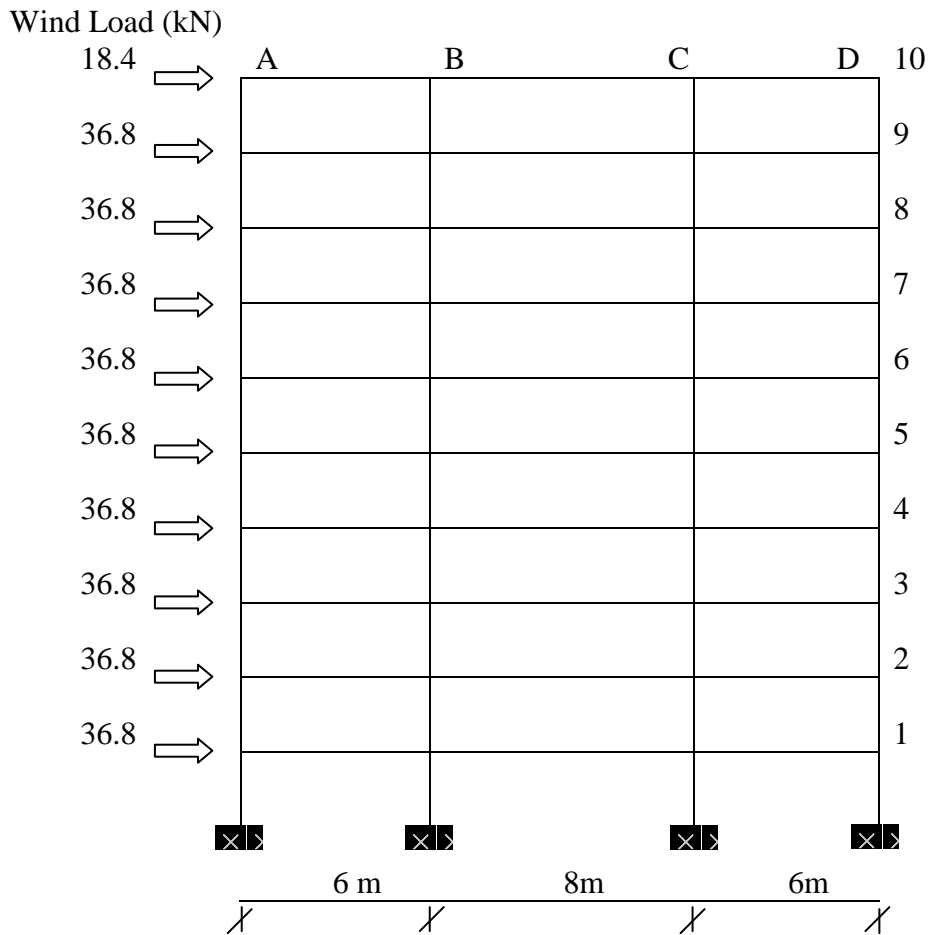

Figure 1
- (b) A ten-storey rigid frame shown in Figure 1 are situated at Melaka in the terrain category 3 with the basic wind speed of 33.5 m/s^2 . The basic wind speed has been converted to equivalent horizontal force as shown in the Figure 1. The story height is typically 3.5 m, to give a total height of 35m. The frames are spaced at 10m. Using the Portal Method, calculate: